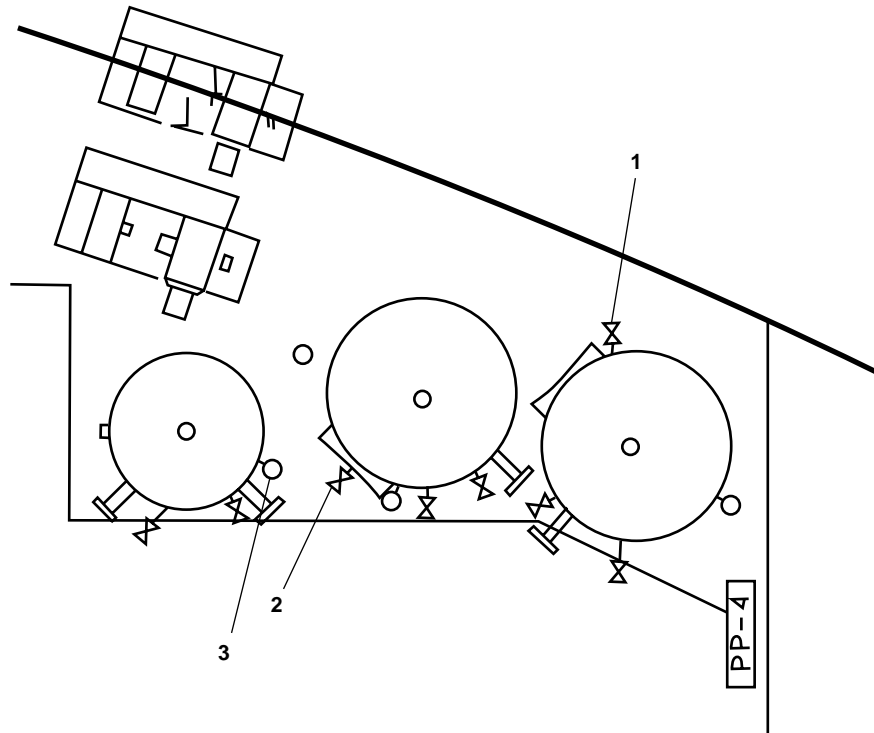

Figure 2. Compressed Air System Valve Locations
- b. CLOSE the unloader cutoff valve CA-98 or CA-99 (figure 2, item 1 or 2) for the out-of-service compressor. Lock out and tag out the valves (FM 55-502).